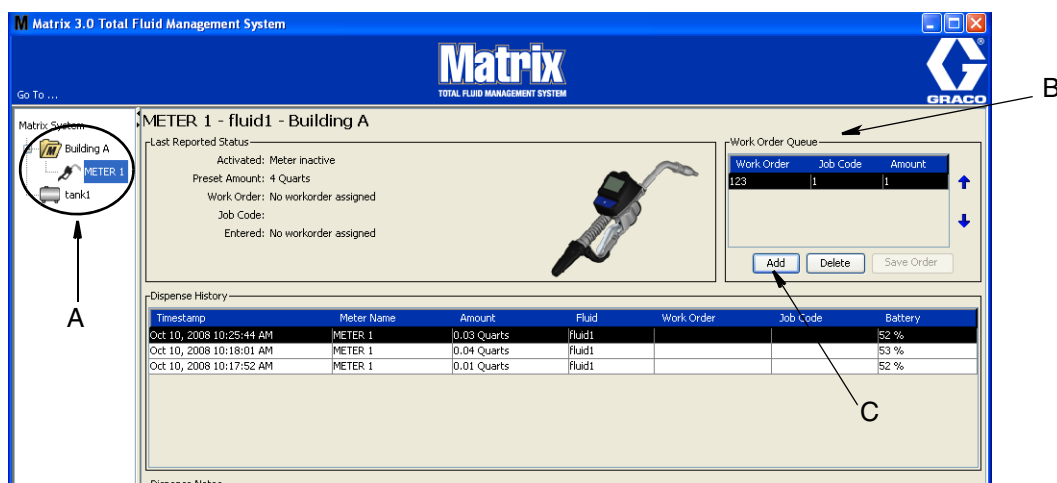

FIG. 117
1. In the System Administrator Defined Groups area of the Matrix Main Screen (A), select the meter you are sending the Work Order to (FIG. 117).
2. In the Work Order Queue section (B) of the screen click the Add button (C) (FIG. 117). A list of work orders available to that meter displays.